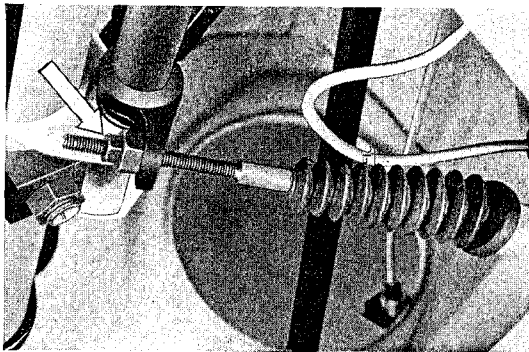

Fig. 35
If the braking effect on both rear wheels is equal during application of the parking brake, adjustment of the nut and center brake cable (see fig. 35) is usually sufficient. If the braking effect is unequal, the parking brake must be readjusted.
4. Loosen lock nut of adjusting nut (see fig. 35), tighten adjusting nut until the rear wheels drag, tighten lock nut.